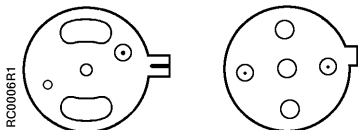

Figure 2. Restrictors.
3. Remove and replace the input restrictor (Figure 2) and two gaskets, one above and one below the restrictor.
2. Remove and replace the supply restrictor (Figure 2) and gasket. Gasket is between the restrictor and the cover.